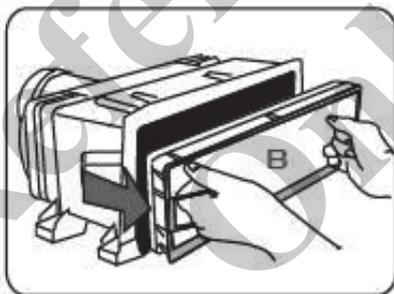

Fig. 196 Removing the safety filter
- 3 Remove the safety filter (B) in Fig. 196.